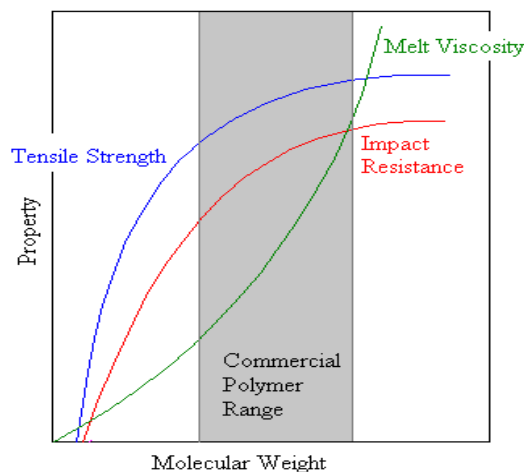

Figure 1
2. [a] Referring to Figure 1, explain why for a particular application only a certain molecular weight range is suitable for a given polymer.